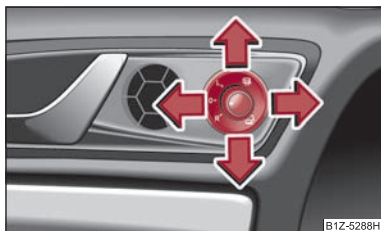

Fig. 54 Inner part of door: Rotary knob
- Turn the rotary knob to position ⇒ fig. 54.
On vehicles fitted with a memory for the driver seat, the surface of the mirror tilts down slightly when the rear gear is engaged and the rotary knob is in the position **R** ⇒ fig. 54. This provides an aid in seeing the kerb of the pavement when parking the car.
- If the exterior mirrors are folded in using the rotary knob ⇒ fig. 54, they can only be folded back into the driving position using the rotary knob.